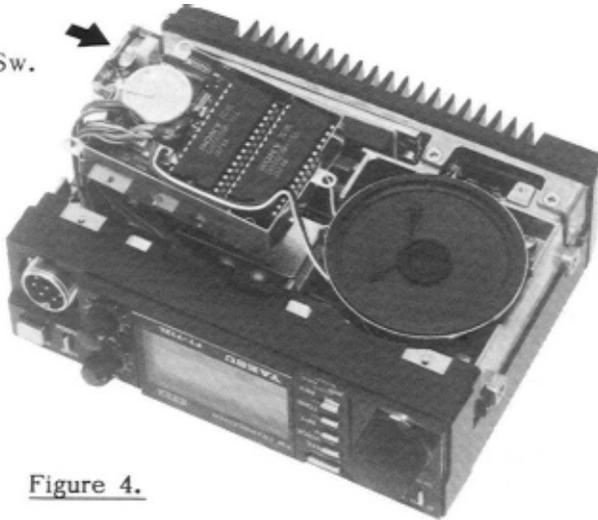

Figure 4.
- (4) Connect the 7-pin plug from the DVS-I to 7-pin jack J2004 on the inside of the front panel (the brown wire should be nearest the center).
- (5) Connect the 3-pin plug from the DVS-I to jack J1003 in the right front corner of the speaker compartment.
- (6) Making sure that no wires are pinched, set the DVS-I in place, routing the speaker wires out under the back of the DVS-I. Install the two supplied screws through the tabs in the DVS-I: one in the left front corner of the chassis, and one in the rear.
- (7) Set the Voice Memory Backup switch in the left rear corner of the DVS-I (Figure 4) to the ON position (toward the rear).
- (8) If also installing the FTS-12, proceed to step 2 of the FTS-12 Installation. Otherwise, do step 5 of the FTS-12 Installation.